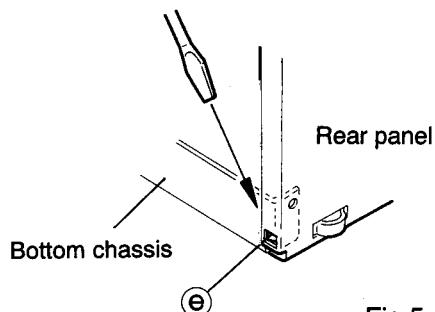

Fig.5-12
6. Use a screwdriver, etc., to disengage the two engagements bottom chassis clips ⑧ and ⑨ from the bottom part of the side panels of the rear panel assembly. (See Figs. 5-12, 5-13)